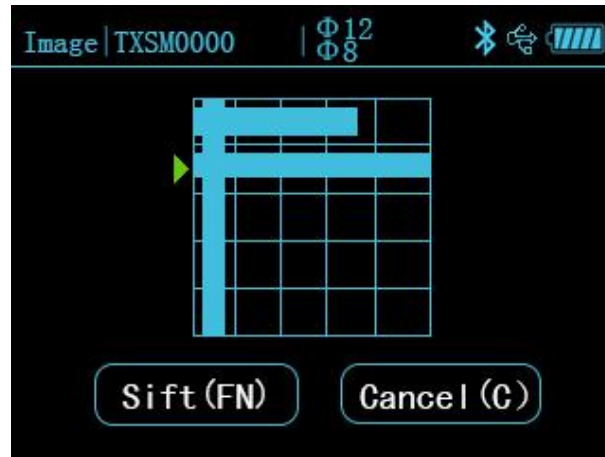

Fig.3.16 Scanning location view interface with image scanning
2. In the graphic display interface of image scanning component data, you will see the summary of all measurements first, as illustrated in Fig.3.16. The user shall press the down direction key to select the scanning location to be viewed, and then press 【OK】 key to go to the graphic data view interface for selection of scanning location.